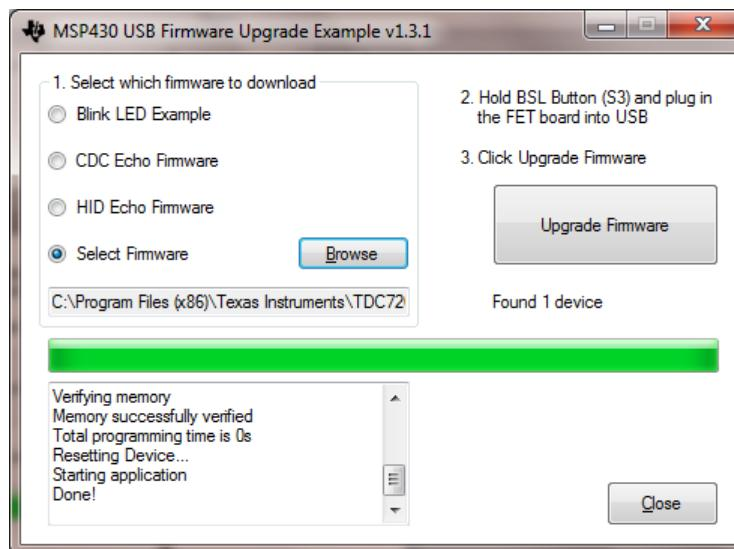

Figure 2. Upgrading MSP430 Firmware
6. On the MSP430 LaunchPad board, press the **BSL button** (S5 or S3) and **connect the MSP430 Launch Pad to your PC using a USB cable**. If detected, the text on the Firmware Upgrade tool changes from **No device connected** to **Found 1 device**. See Figure 2.